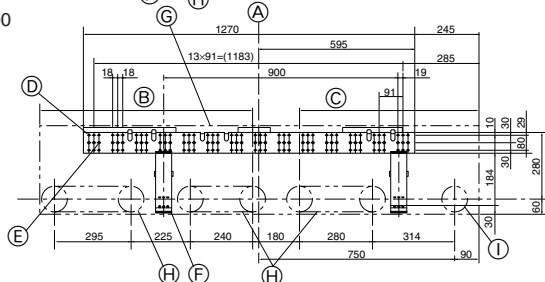

Fig. 3-1
3.1. Installing the wall mounting fixture (Fig. 3-1)